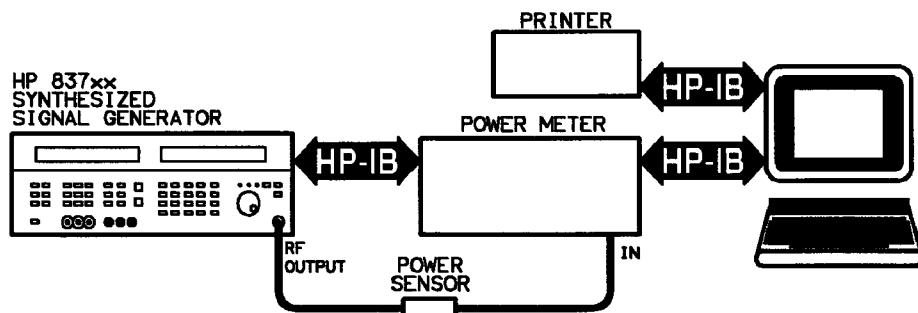

Figure 7-9. 0.01—1 GHz Vernier Calibration Equipment Setup
2. Set up the equipment as shown in Figure 7-9.